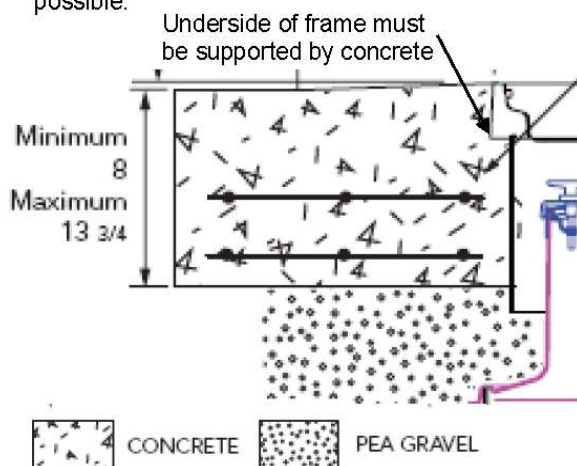
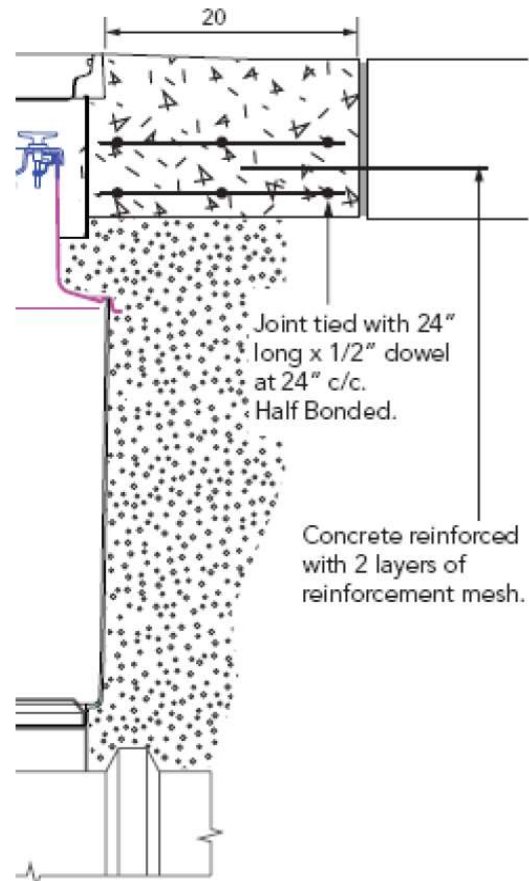

Figure 50
Figure 51
68. It is required that the frame and skirt assembly, and the multiport cover be set as an assembled unit, with the bolts on the 209398 rings engaged. Frame must be supported by a minimum depth of 8" of concrete (maximum 13.75" depth, see Figure 50.). Concrete reinforcement must be positioned as close to the frame as possible. Minimum block of 20" square around the frame. Joint must be tied as per Figure 51. Continuous pour preferred if possible.